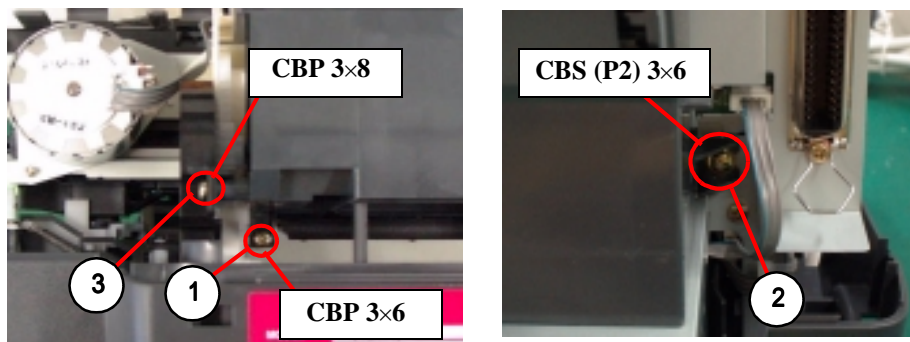

Figure 2-6. Removing the ASF unit
- When reassembling the ASF unit tighten screws from lower numbers in Figure2-6.